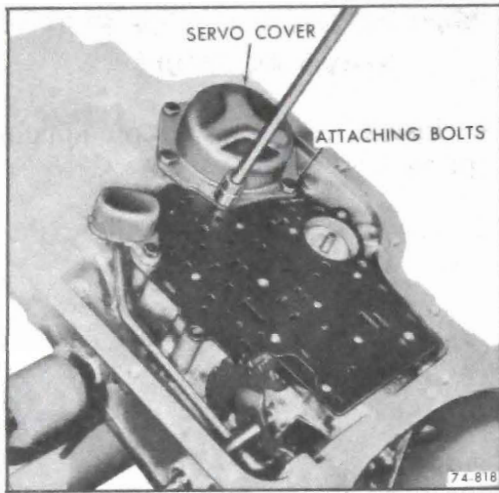

Figure 76-780
4. Install attaching bolts. Torque bolts to 15-20 lb. ft. See Figure 76-780.